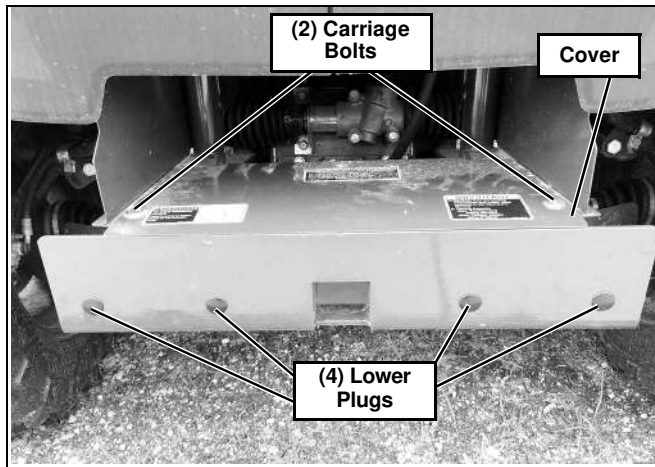

Figure 1
1. Remove the two carriage bolts holding the cover to the top of the frame just behind the bumper. (See Figure 1.)